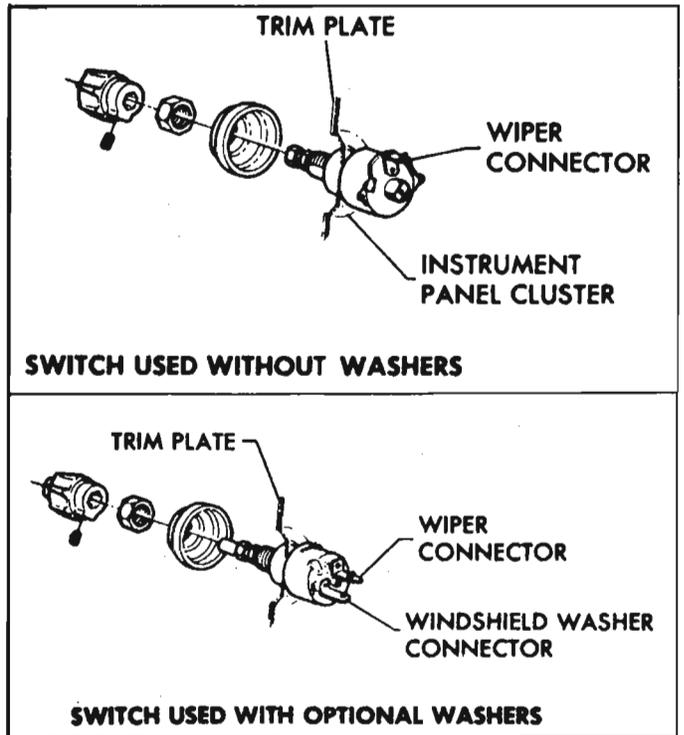

Fig. 8-109—Windshield Wiper Switch Installation
1. Remove the connector(s) from the rear of the switch. A single connector is used on units without windshield washers. Two connectors are used on units with windshield washers (fig. 8-109).
6. Attach connectors to rear of switch as shown in Figure 8-109 and test operation of wipers and washers.